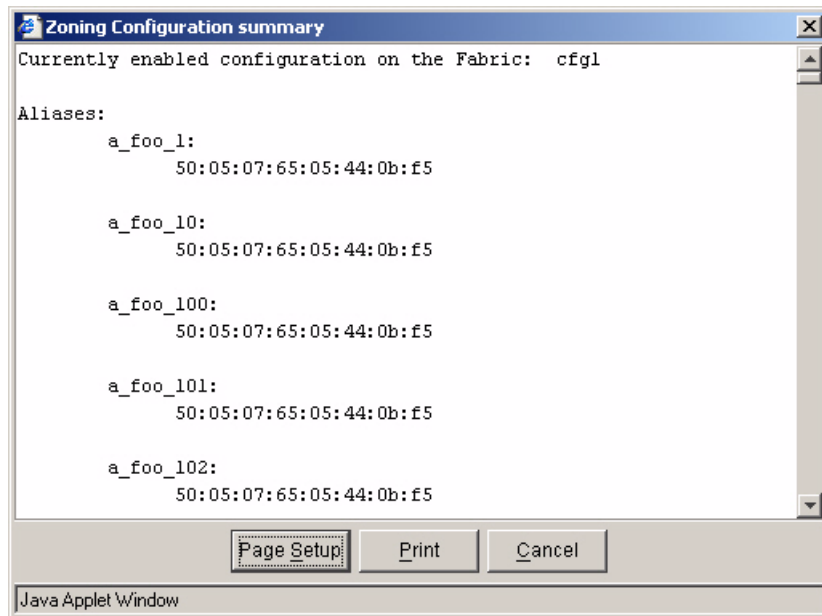

Figure 49: Zoning Configuration summary
Print Summary	Select to print a zoning configuration report. A window displays both the effective configuration and the defined zoning configuration, if one exists. (see Figure 49).
2. Select **File > Print Summary**. The Zoning Configuration summary dialog box is displayed. An example of the Zoning Configuration summary is displayed in Figure 49.